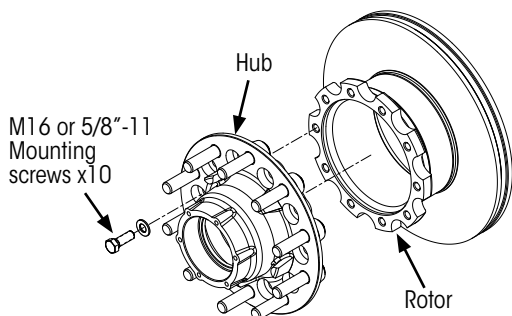

Figure 3: Flange mounted hub & U-shaped rotor assembly
6. Properly **constrain assembly and tighten** mounting screws, in the sequence shown in Figure 3, to 200 ± 9 ft. lbs. (270 ± 10 Nm) of torque.